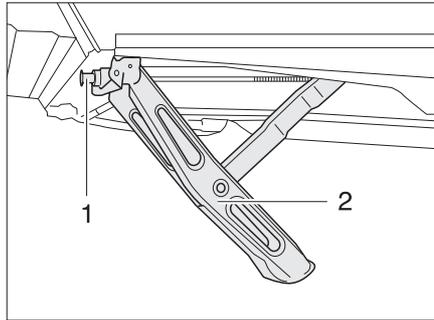

Fig. 16 Corner steady cranked down
- Place the hand crank provided as standard on the hexagonal nut (Fig. 16,1) of the corner steady (Fig. 16,2).